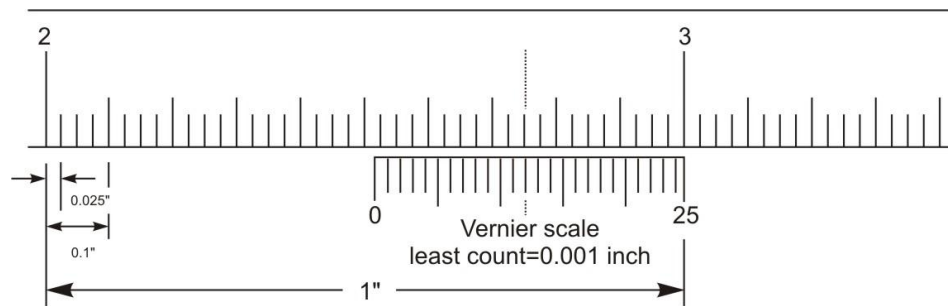

Figure 14: inch vernier scale example
1. Read the number of full inch graduation(s) on the main scale (fixed scale on beam) which is left of the "0" mark on the Vernier scale. In the figure 14 it is 2 inch.